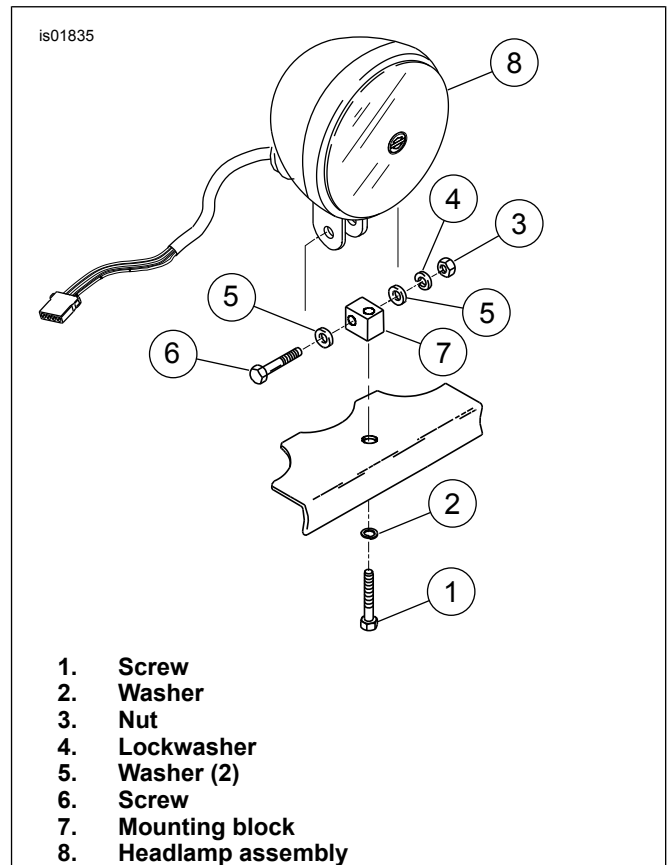
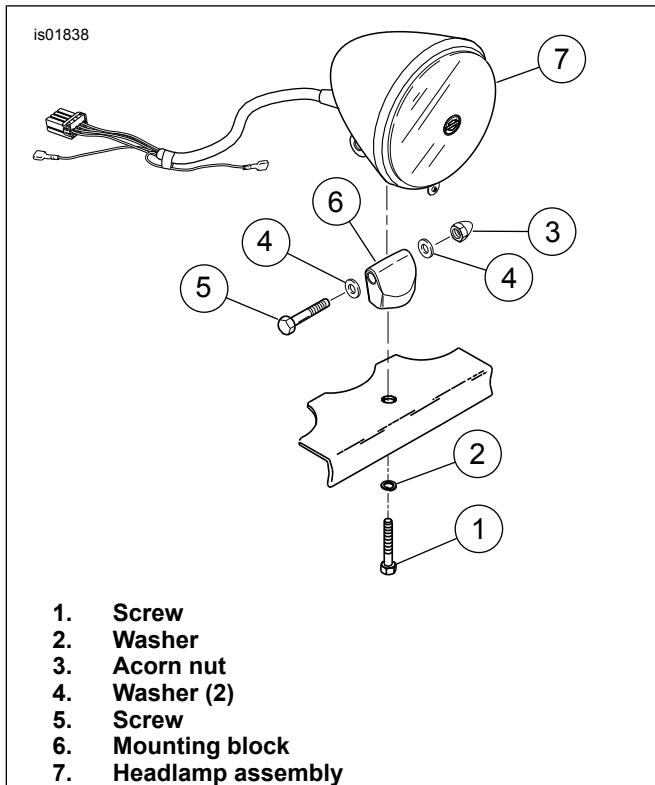

Figure 1. Softail and Dyna Headlamp Assembly with Mount (except FXSTD)
Figure 2. FXSTD Headlamp Assembly with Mount
4. All Softails (except FXSTD): See Figure 1. Remove screw (1) and washer (2) from stem and bracket. Discard screw but save washer for later use.
5. Remove and discard mounting block (7) and headlamp assembly (8).
6. *FXSTD models:* See Figure 2. Remove screw (1) and washer (2) from stem and bracket. Save screw and washer for later use.
7. Remove and discard nut (3), washers (4), and screw (5).
8. Remove and discard mounting block (6) and headlamp assembly (7).
6. See Figure 1. Remove screw (1) and washer (2) from stem and bracket. *2005-Earlier FXDWG:* Discard screw but save washer for later use. *2006-Later FXD:* Save screw and washer for later use.